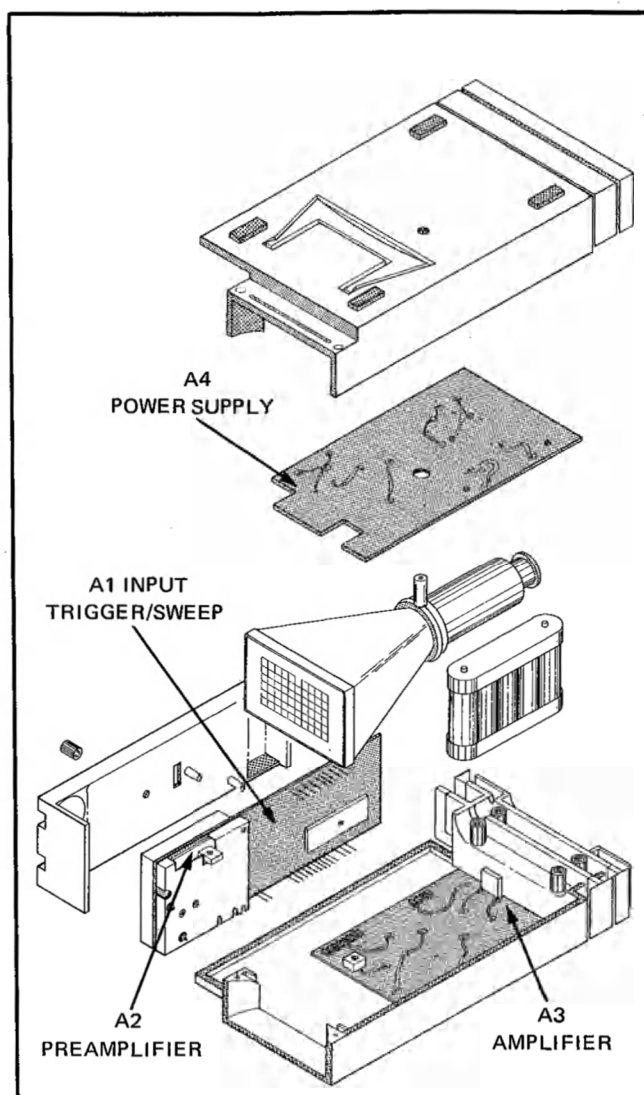

Fig. 6-1. Location of circuit boards in the 221 Oscilloscope.
Figure 6-1 shows the location of the circuit boards within the instrument along with their assembly (A) numbers. The assembly numbers are also used on the diagrams to aid in locating the boards. Circuit board layouts are shown in the Diagrams section, on the back of the page opposite the circuit diagram, to aid in cross-referencing between the diagrams and the circuit board. Each electrical component on the boards is identified by its circuit number. The components are listed in the table near the circuit board layouts. To find a component, locate it in the component list, and note the coordinates listed with it. Locate the coordinates on the layout, and the component is located within this area.